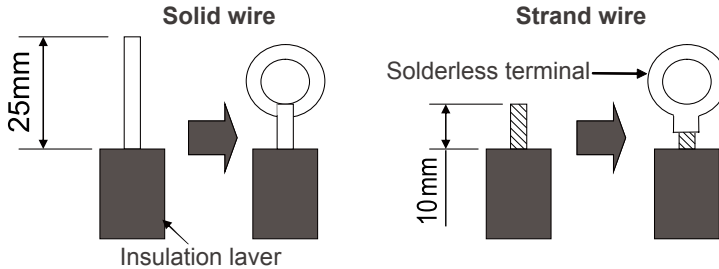

Fig.27
(1). For solid core wiring (Fig.27)
(2). For strand wiring (Fig.27)